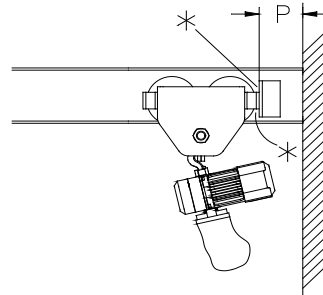

Figure 7
- A stop must be placed at the ends of the rolling profile so that elevations P (hoist parallel to the beam) or elevation C (hoist crosswise on the beam) between the stop and the wall will prevent the hoist from collisions, even at low speed (figures 7 and 8) To determine P and C check either the drawings on the general dimensions of the hoist, or table no 4.